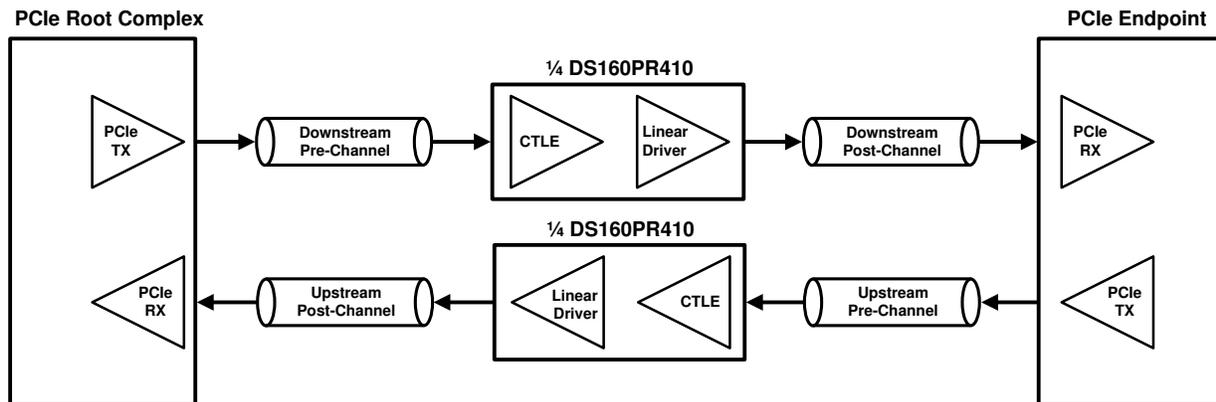

Figure 3-1. Single PCIe Lane with Linear Redrivers
PCI-Express (PCIe) links are typically implemented with 4-lane (x4), 8-lane (x8), and 16-lane (x16) widths. For the purpose of redriver tuning, it is useful to become familiar with components of a PCIe lane that incorporates linear redrivers. As shown in Figure 3-1, bidirectional communication between a PCIe root complex (RC) and a PCIe endpoint (EP) is carried over downstream (from RC to EP) and upstream (from EP to RC) channels.